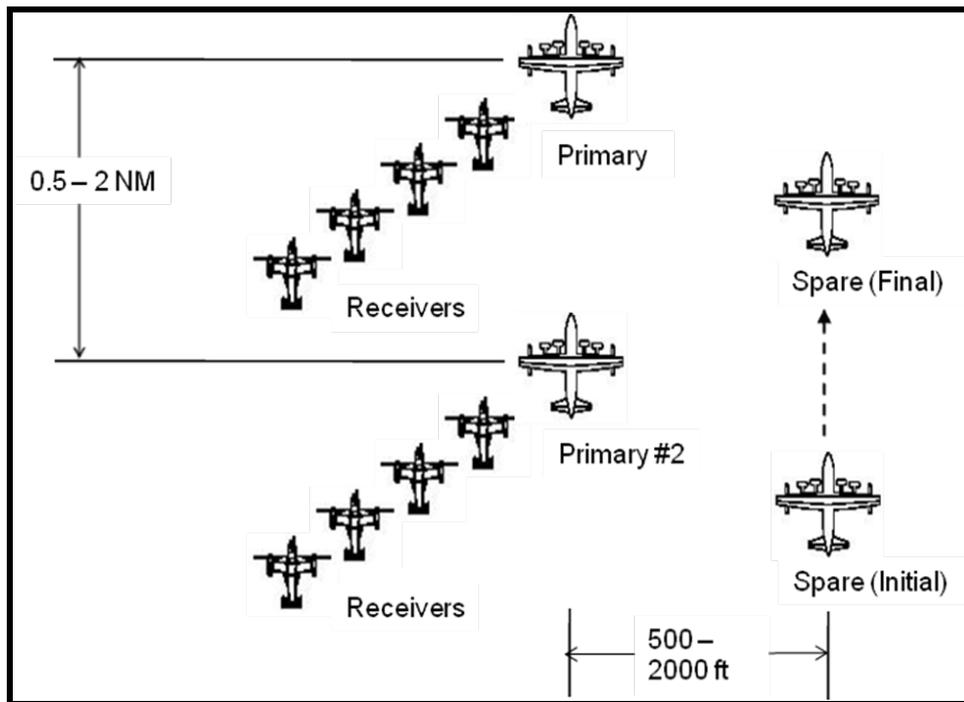

Figure 4-2. - TAAR Formation Option 2 with Three Tankers (Not to Scale)
Formation Option 2 (Figure 4-2) consists of at least two primary tankers and one spare tanker, when available. This formation is ideally employed when supporting more than four receivers.
- b. **Tanker Formation Positions.** Tanker aircraft typically execute the RV using the trail formation. When employing formations of two or three aircraft, the No. 1 and No. 2 primary tankers assume the lead and dash 2 positions. If there is a spare tanker, it assumes the dash 3 position. When employing formations of four aircraft (two primary and two spares), the first element consists of the No. 1 primary tanker and No. 1 spare; the second element consists of the No. 2 primary tanker and No. 2 spare. See Figure 4-2.
- (1) **Method 1.** The tankers maintain formation until they approach the second receiver element (trailing element). At this point, the No. 2 element lead primary tanker (and spare, if applicable) drops out of the formation and completes the join-up on the trail receiver element. The lead primary tanker (and spare, if applicable) continues forward to join-up on the lead receiver element.
- (2) **Method 2.** Prior to the ARIP, the primary tankers establish spacing between themselves that is equal to the briefed spacing between receiver elements. If one spare tanker is available, it remains with the No. 2 primary element lead tanker. If two spares are available, they remain with their respective primary. From this point, they execute individual join-ups on their respective elements.